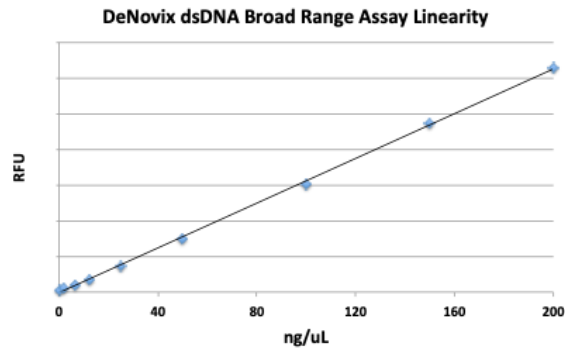

Figure 2: Calf Thymus DNA measured using the DeNovix dsDNA Broad Range Assay on a DS-11 FX Fluorometer.
3. Plot the fluorescence RFU values for the DNA standards on the y-axis and ng/well DNA on the x-axis, and fit a trend line (Figure 2) through these points to generate a standard curve with a y-intercept = 0.